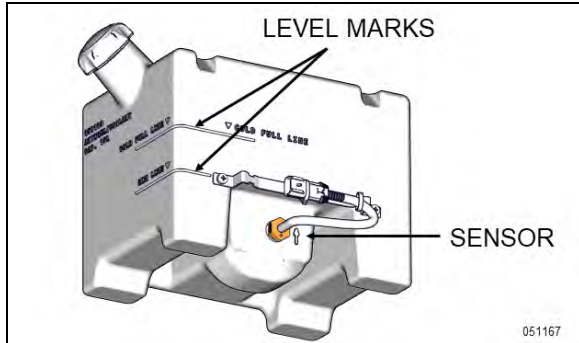

FIGURE 17: RECOVERY TANK SENSOR &amp; LEVEL MARKS
*Cold engine* coolant level is correct when coolant level is visible between the two level marks on the recovery tank (Figure 2 & Figure 17). If coolant level is low, fill cooling system.